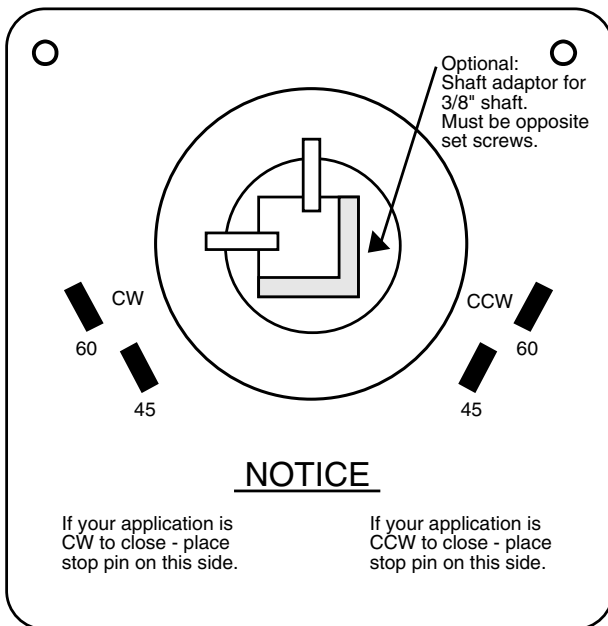

Figure 3
- Lightly tap the Stop Pin in to seat it correctly into either the 45° or 60° slot on the CW side as shown in Figure 3.
- Lightly tap the Stop Pin in to seat it correctly into either the 45° or 60° slot on the CCW side as shown in Figure 3.
- b. See Figure 3 for orientation of the adapter. It must be opposite the screws so they will not push into the side walls of the Adapter.